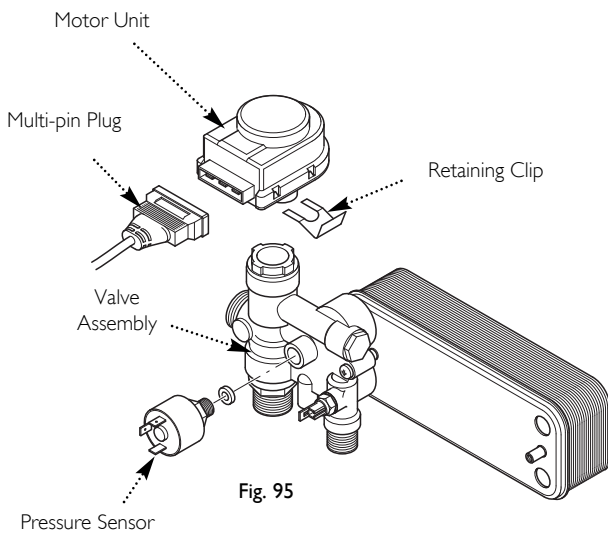

Fig. 95
14.21 Diverter Valve - Motor Unit & Assembly (Fig. 95)